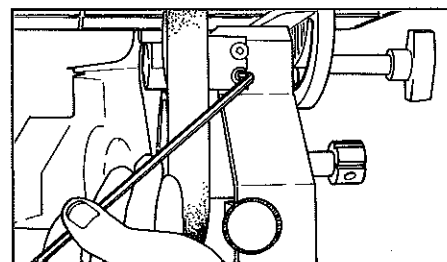

Figure 11. Adjust the flat or curved platen left or right as needed.
a. If the flat or curved platen needs left/right adjustment, loosen the two screws (35) on the base of the platen and move the platen left or right until the sides are parallel with the belt. (See Figure 11.) Tighten screws (35).